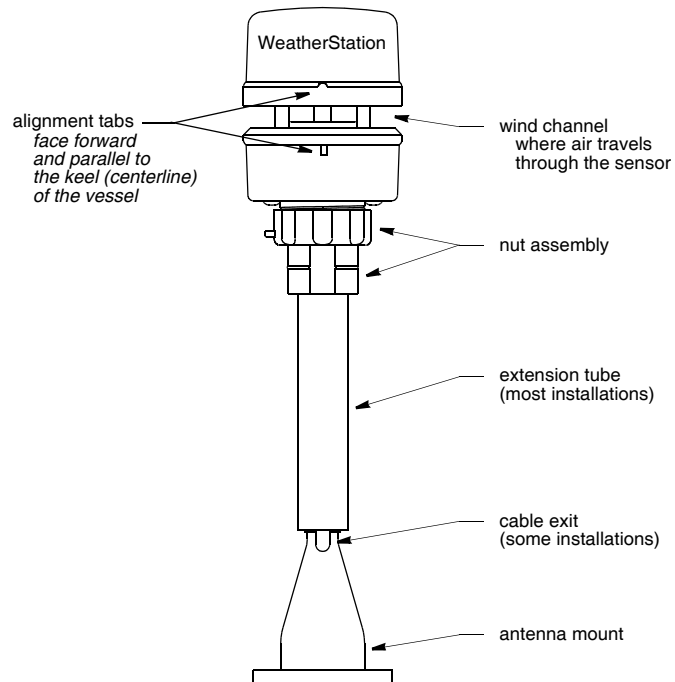
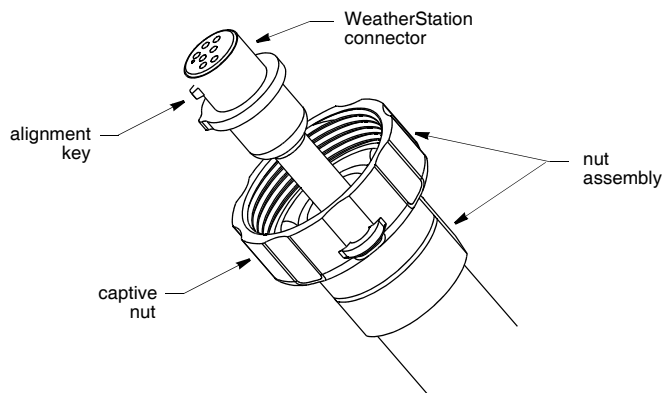

Figure 4. Installation
Figure 5. Connector
2. Position the antenna mount at a 90° angle to the deck. If necessary, use shims to make the mounting surface level (see Figure 4).
6. With the nut assembly on the cable near the WeatherStation connector, thread the cable through the extension tube (if used), antenna mount, and the cable exit. Allow several inches of cable topped by the connector above the nut assembly (see Figure 5).
9. Be sure the alignment tabs on the WeatherStation instrument are facing forward and parallel to the keel (centerline) of the boat (see Figure 4). Slide the captive nut upward and screw it onto the base of the WeatherStation instrument (see Figure 5). **Hand tighten** only. Do not over tighten. Be careful not to rotate the WeatherStation instrument or loosen the nut assembly from the antenna mount/extension tube. *Double check to be sure the alignment tabs are still facing forward.*